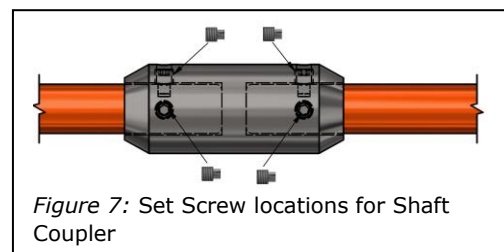

Figure 7: Set Screw locations for Shaft Coupler
- Use the Shaft Coupler to attach ONE* additional shaft using the above assembly guide (Figure 7)